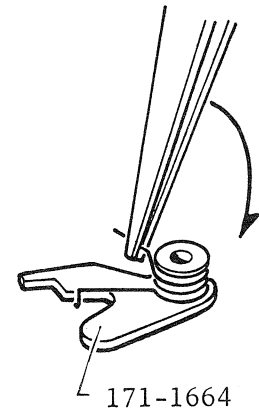

Fig. 10
b) Set the armature spring on the 171-1664 lever (B) as shown in Fig. 10 and pull end of the spring with a pair of tweezers.
c) Carefully raise a pair of tweezers vertically and hold the lever (B) in barance with your third or middle finger.